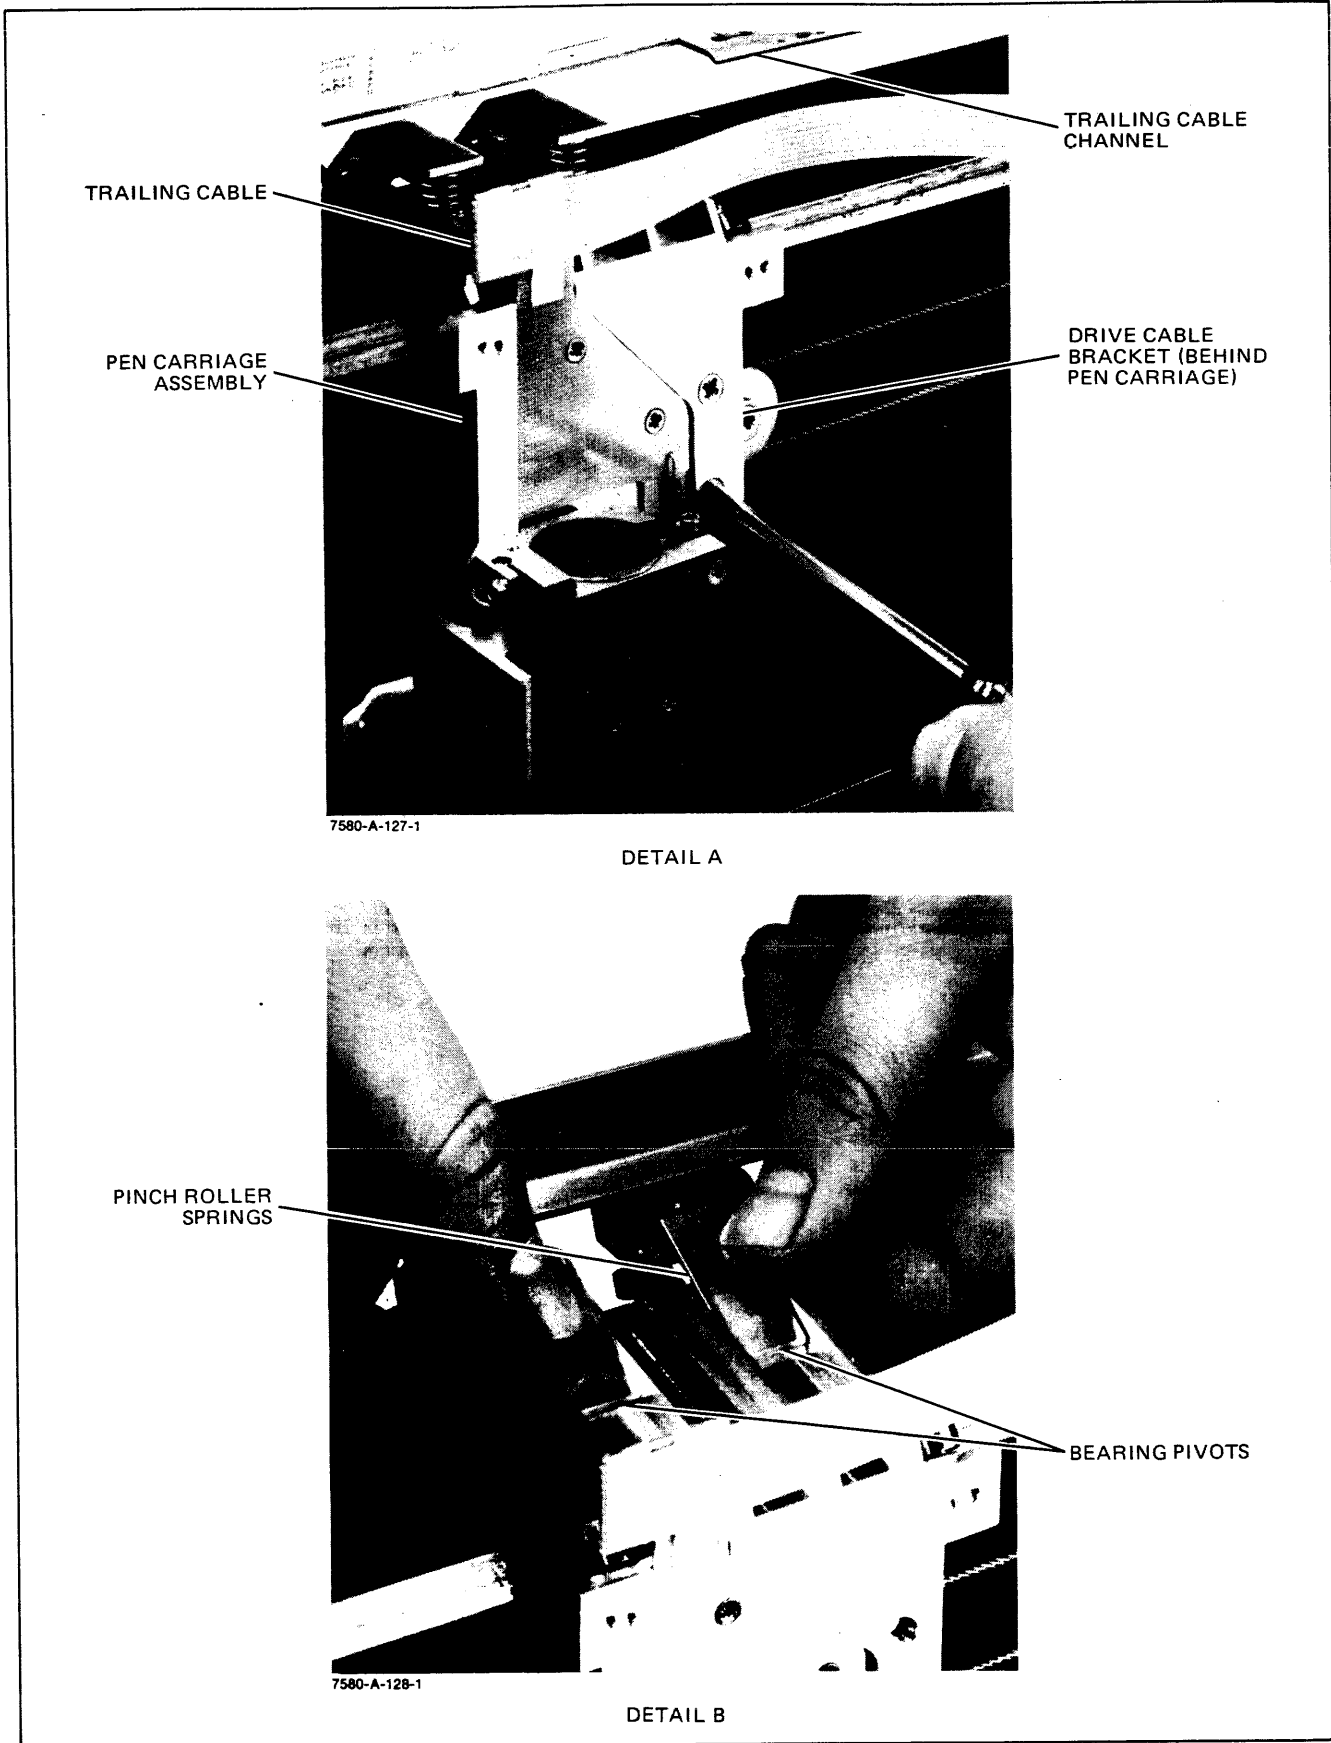

Figure 6-10. Pen Carriage Replacement
- i. Remove the two screws securing the pen carriage to the drive cable bracket as shown in Figure 6-10, Detail A.
- j. As shown in Figure 6-10, Detail B, compress the two pinch roller springs which apply pressure to the two bearing pivots on top of the carriage. Rotate the carriage forward slightly and remove it from the Y arm.
- n. Align the pen carriage with the drive cable bracket and install the two mounting screws as shown in Figure 6-10, Detail A.